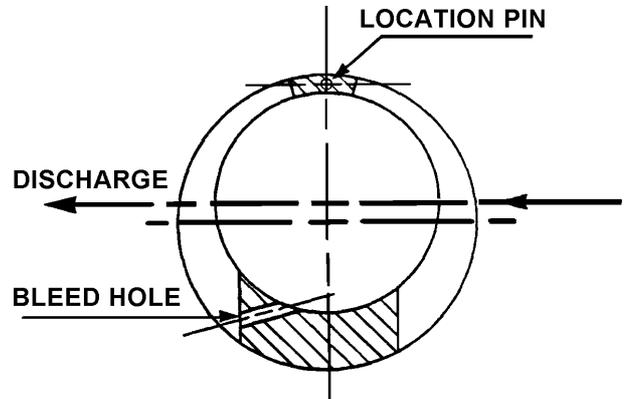

Figure 6
14. Fit liner into body with the bleed hole toward pump discharge and thick section to bottom of pump (Refer Fig. 6). Leave liner protruding about 10mm from drive end.